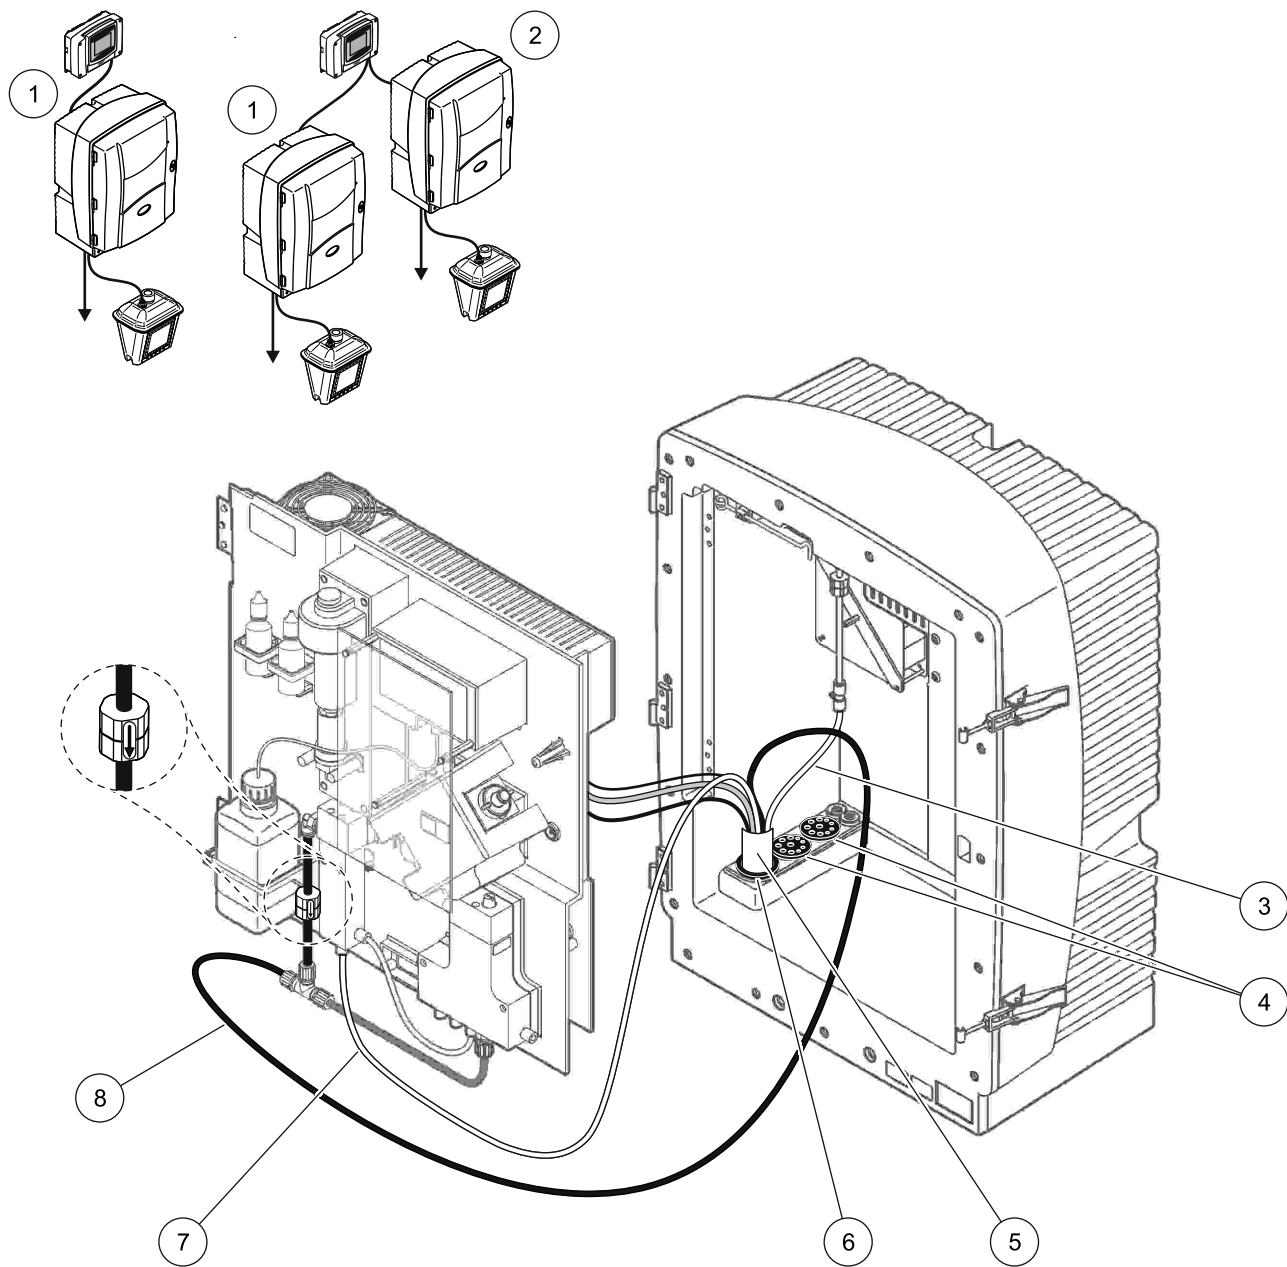

Figure 29 Option 1 setup
Refer to Figure 29 and the following instructions for Option 1:
2. Feed the Filter Probe sc hose (sample lines, electrical cables and drain tube) through the analyzer opening (item 5, Figure 29). Use Seal Plug #2 to secure.
5. Connect the air tube to the compressor (item 3). Refer to section 3.5.5, page 27.
6. Connect the drain tube to the Filter Probe sc (Figure 29, page 79).